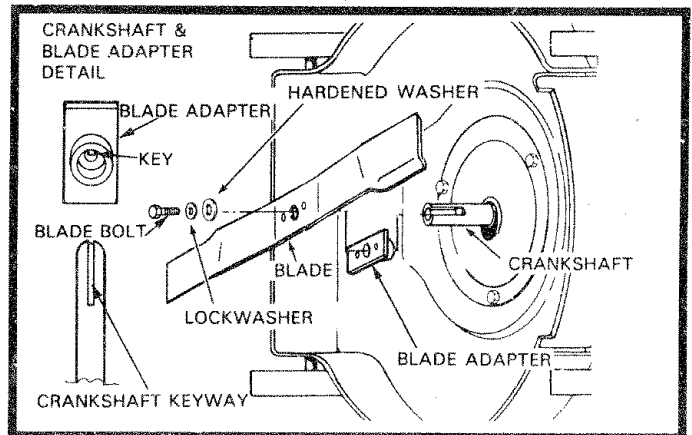

FIG. 11
- Remove blade and attaching hardware (bolt, lockwasher and hardened washer) (See Fig. 11).
- Position blade on to the blade adapter aligning the two (2) holes in the blade with the raised lugs on the adapter.
**NOTE:** Be sure the word TOP (stamped on the blade) is toward the engine (See Fig. 11).
- Install the blade bolt with the lockwasher and hardened washer into blade adapter and crankshaft (See Fig. 11).